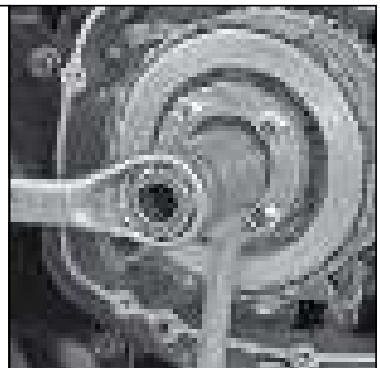

Fig. 1.10B
- Used to hold the clutch assembly during clutch assembly mounting nut removal. (Fig. 1.10B)